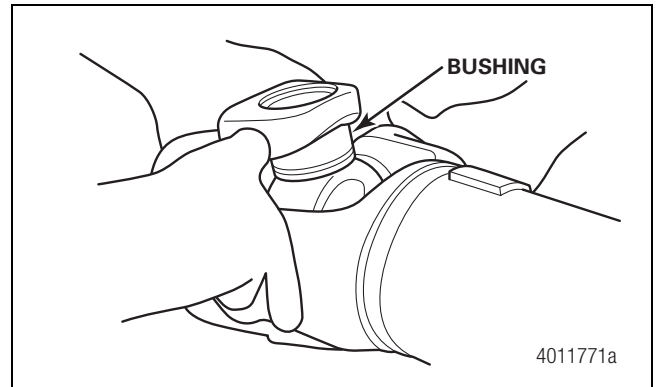

Figure 4.76
9. Rotate the assembly 180 degrees (turn it over). Figure 4.76.